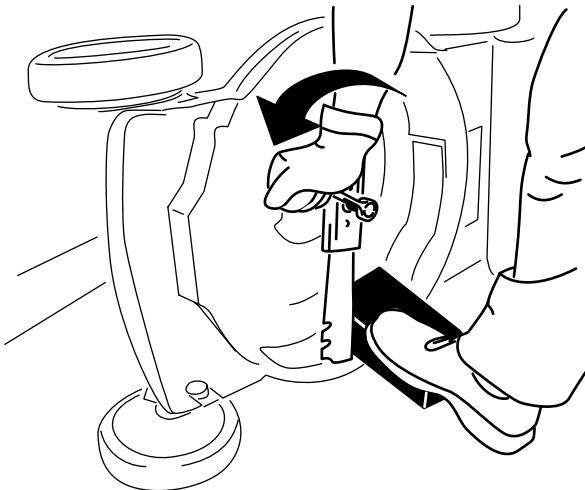

Figure 30
4. Remove the blade, saving all mounting hardware (Figure 30).